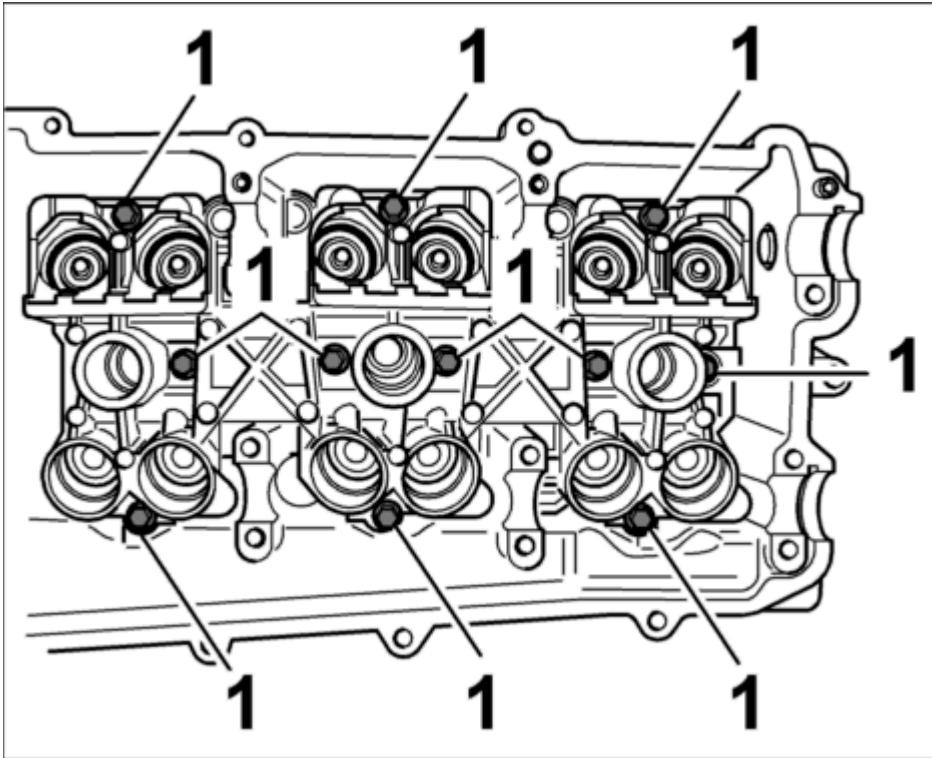

Fig. 170: Flat-base tappet housing bolts
5. Remove flat-base tappet housing. Unscrew 11 Torx screws -1- from the outside to the inside. Remove housing and check the fitting bores for damage. See **Fig. 170**.